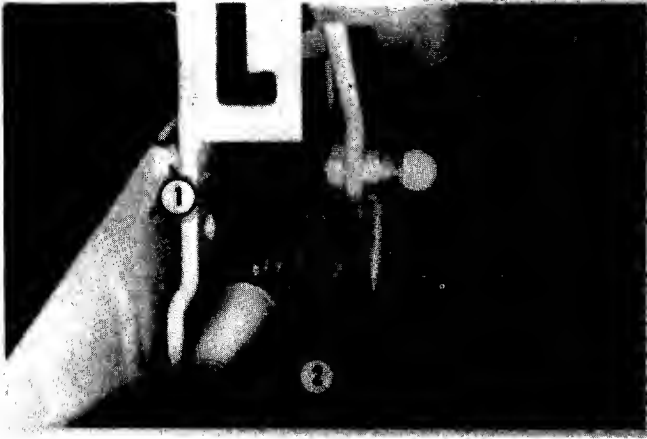

FIG. 4.30-CLUTCH/BRAKE ROD DISCONNECTED
5. Disconnect clutch/brake control rod at front. Fig. 4.30.
10. Connect clutch/brake control rod at front. Fig. 4.30.